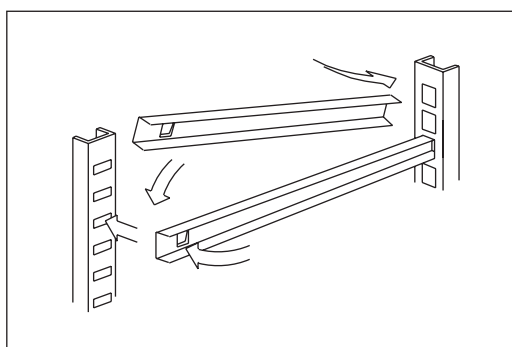

Fig.6
- position the grille holding guide rails in the holes of the racks (Fig. 6)